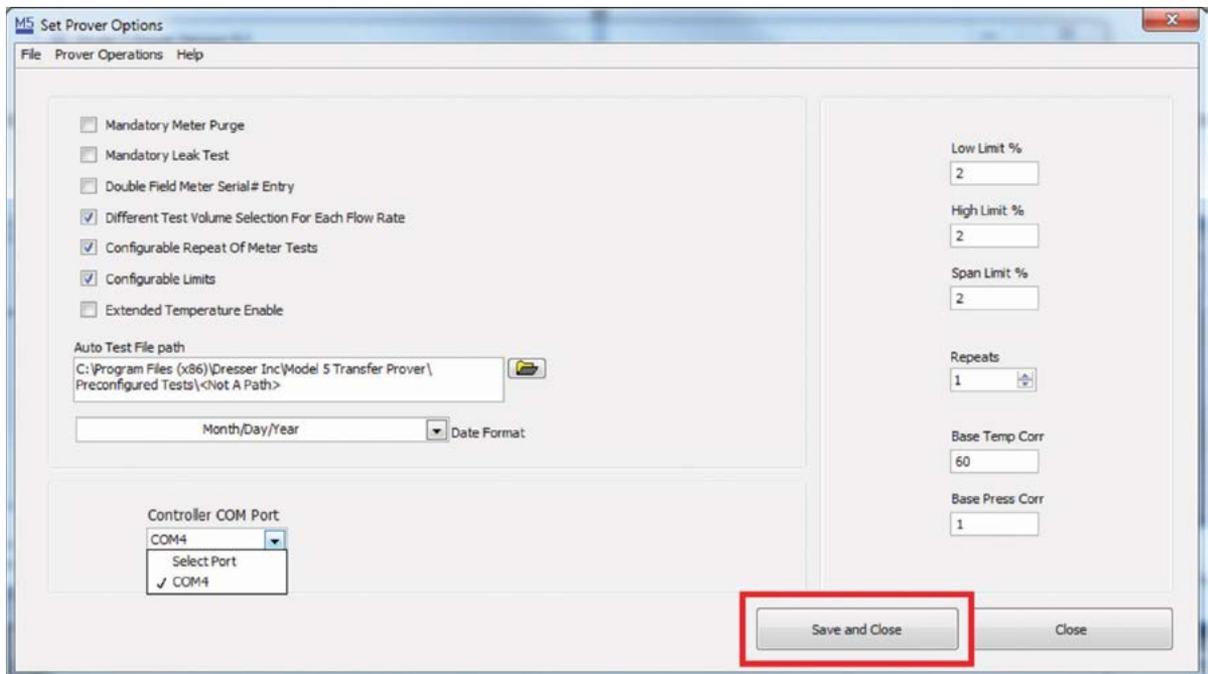

Figure 58: Save and Close
- When complete, click "Save and Close" as shown in **Figure 58**.